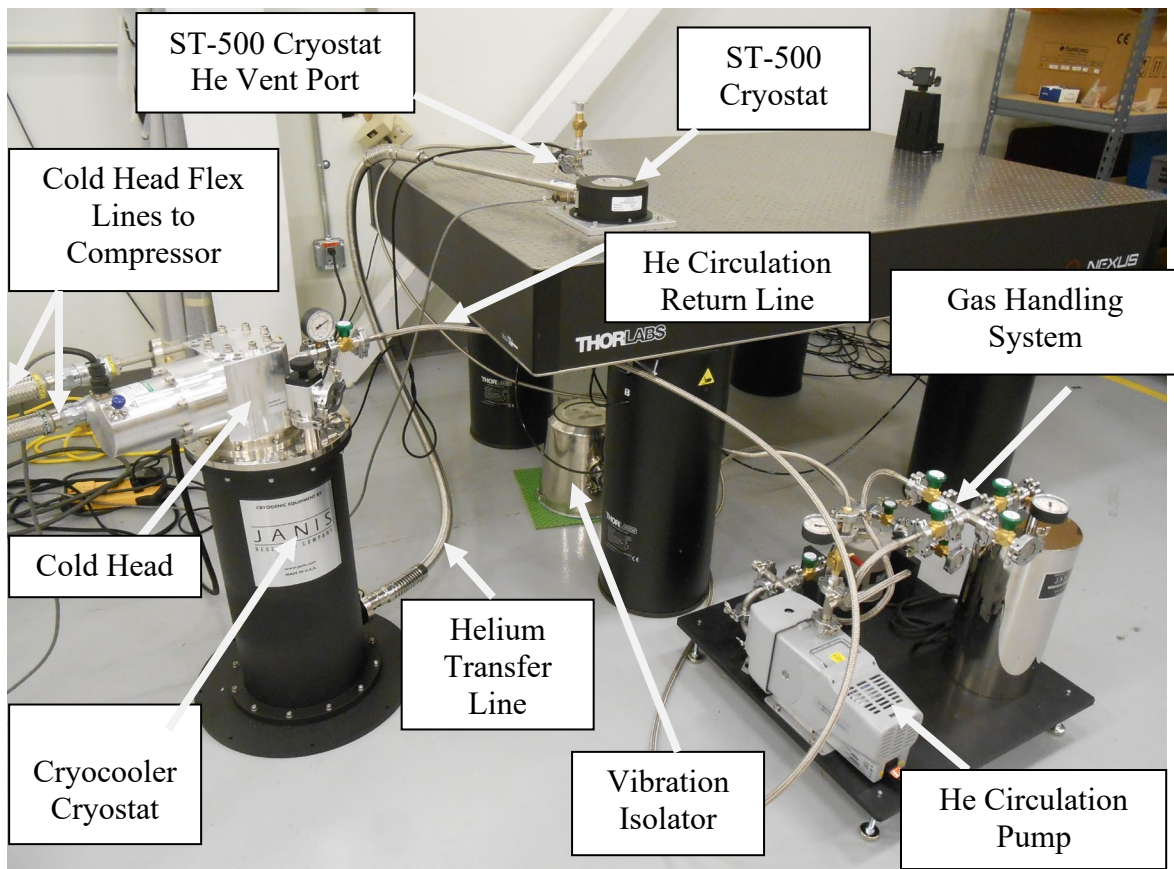

Figure 1 System layout with ST-500 SuperTran cryostat
Figure 1 shows the main following components of a complete Cryogen Free Closed Cycle Refrigerated System.
- 5.6 Insert the cryocooler cryostat Helium transfer line all way into the ST cryostat inlet port and carefully tighten the O-ring seal (see **Figures 1 and 2** where the system shown with SuperTran ST-500 cryostat).